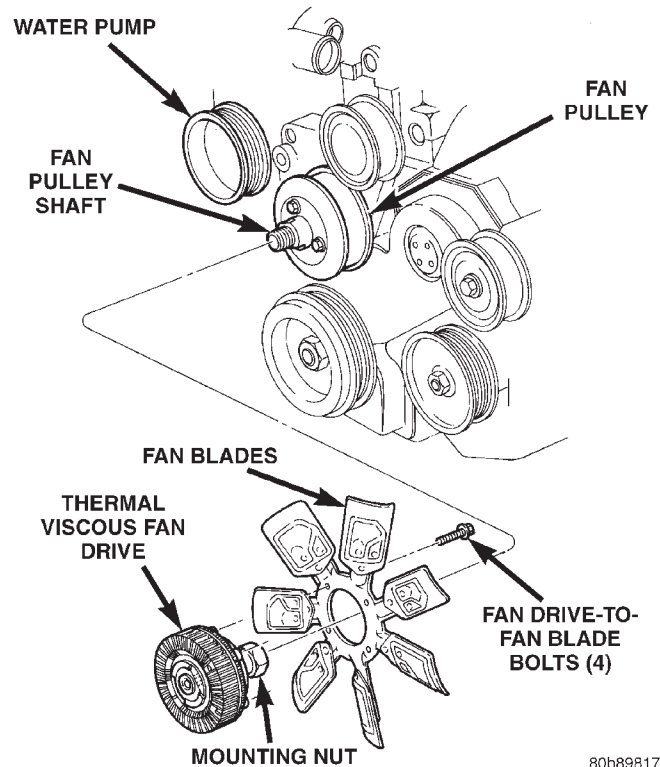

**Fig. 21 WATER PUMP REMOVAL/INSTALL—
The water pump is serviced by replacing the pump and its impeller only. The water pump adapter (Fig. 21) does not have to be removed. The pump impeller is pressed on the rear of the pump shaft and bearing assembly. The pump is serviced only as a complete assembly with the impeller, housing, hub and bearing.
(5) Remove the upper fan shroud-to-upper cross-member mounting bolts. One of the bolts is mounted vertically at the bottom of the fan shroud.
(6) Slip the fan shroud rearward. Remove the fan shroud and viscous drive/fan blade together as one assembly from the engine compartment.
(7) Loosen **but do not remove** the 3 water pump pulley bolts (Fig. 21).
- (10) Remove the 3 water pump pulley bolts (Fig. 21).
- (11) Remove the water pump pulley from the water pump.
- (12) Disconnect the drain hose from the vent tube at the bottom of water pump (Fig. 21).
- (13) Remove the 4 water pump mounting bolts (Fig. 21).
- (14) Remove water pump from engine.
- (2) Position a new rubber o-ring seal (Fig. 21) between the pump and pump adapter. Hold the seal with petroleum jelly.
- (3) Position the pump on the engine.
- (4) Position the metal coolant tube and its mounting bracket on the pump.
- (5) Install the four water pump mounting bolts. Torque bolts to 24 N·m (18 ft. lbs.).
- (6) Install drain hose to vent tube at bottom of pump.
- (7) Position the water pump pulley to the water pump.
- (8) Install the water pump pulley bolts finger tight.
- (9) Install the rubber coolant hose near the thermostat.
- (10) Install the accessory drive belt. For procedures, refer to Belt Removal/Installation in the Engine Accessory Drive Belt section of this group.
- (11) Torque the water pump pulley bolts to 24 N·m (18 ft. lbs.).
- (12) Position the viscous drive/fan blade and fan shroud to the engine compartment as one assembly.